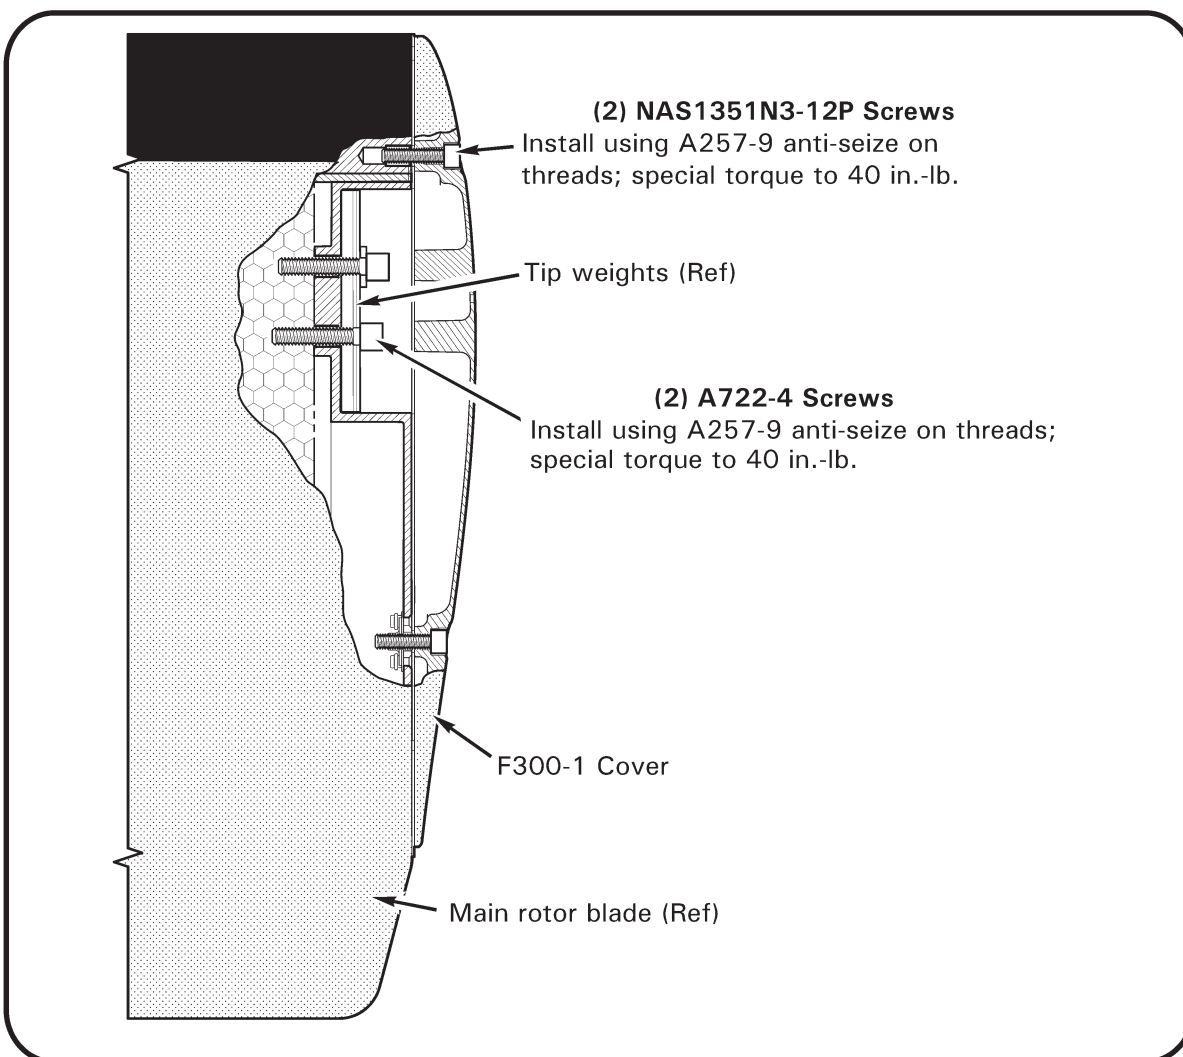

FIGURE 18-4A MAIN ROTOR BLADE TIP
1. Remove screws securing tip cover to blade. Balance rotor assembly spanwise by adjusting tip weights as required per Figure 18-2. Washers may be trimmed. Refer to Figure 18-4A. Apply light coat A257-9 anti-seize to threads and install screws securing tip weights to blade; special torque screws to 40 in.-lb. Apply light coat A257-9 anti-seize to threads and install screws securing tip cover to blade; special torque screws to 40 in.-lb.